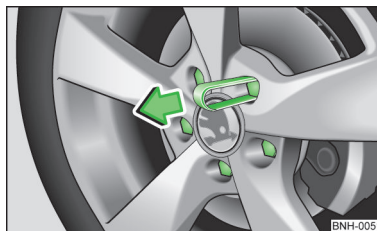

Fig. 88
- › To **remove the cap**, insert the extraction pliers up to the stop on the cap and pull this in the direction of the arrow » fig. 88.